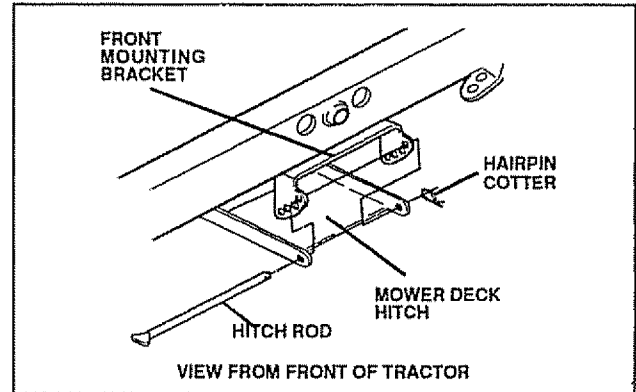

FIG. 23A
- Remove hairpin cotter from mower deck hitch and remove deck hitch rod from top holes of the front mounting bracket (see Fig. 23A).
- Remove hitch rod and hairpin cotter from front mounting bracket and lay aside (see Fig. 23A).